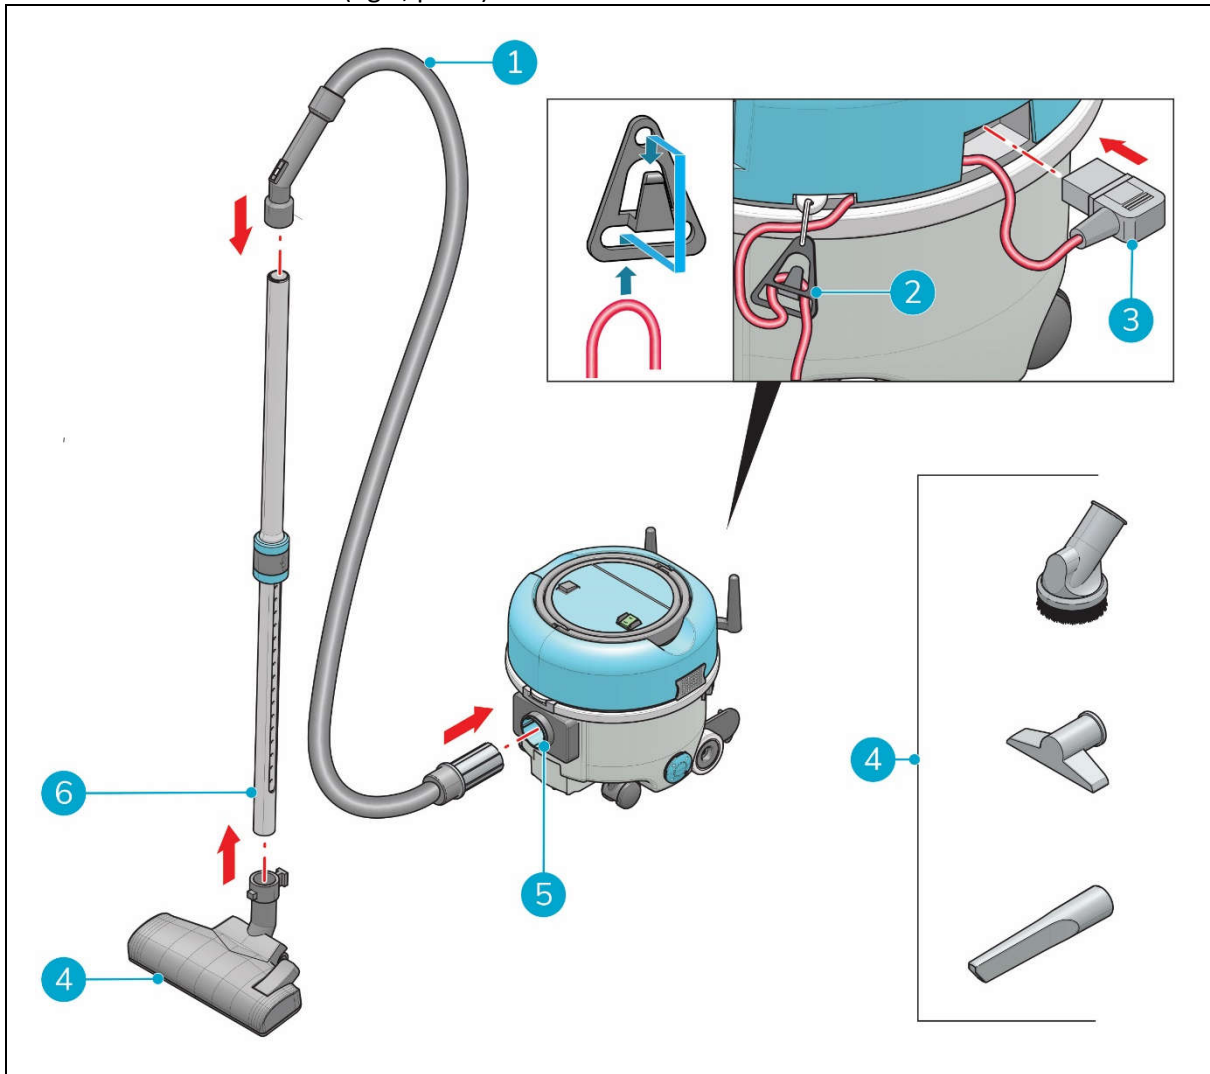

Figure 8
1. Place the main power cable in the cable strain relief (fig 8, pos 2), at a cable length of approximately 10 to 12 centimeters from the machine.
2. Place the main power cable plug (fig 8, pos 3) into the slot.
3. Insert the hose (fig 8, pos 1) into the hose connector (fig 8, pos 5).
5. Insert the hose into the wand (fig 8, pos 6).
6. Attach the desired tool (fig 8, pos 4) on wide end of the wand.